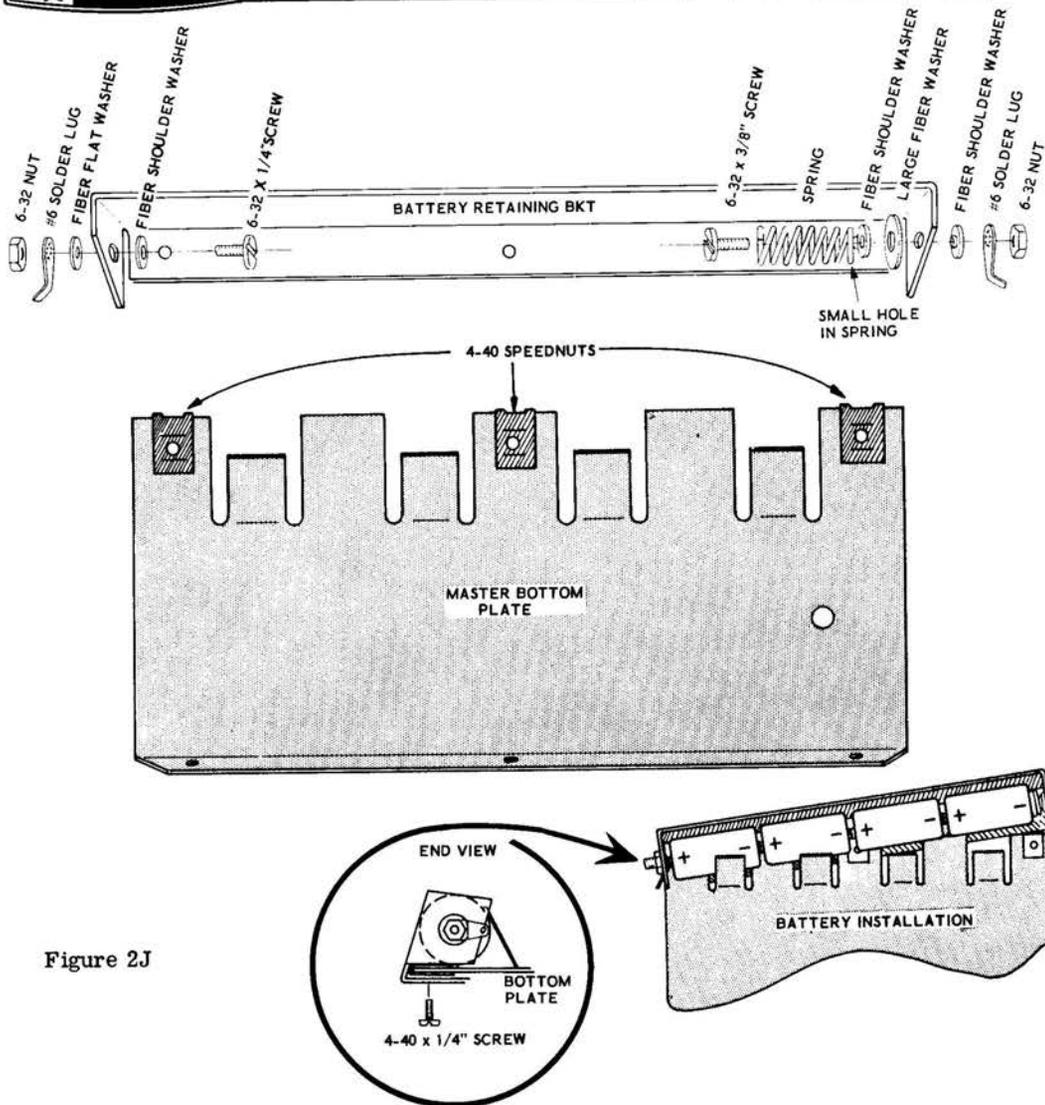

Figure 2J
- () Install another fiber shoulder washer over this screw on the other side of the bracket. Put the shoulder of the washer in the hole in the bracket, and fasten the assembly in place with a #6 solder lug and a 6-32 nut. Place the solder lug as it is shown in Figure 2J.
- () Fasten one end of the battery retaining bracket to the master bottom plate as it is shown in the inset drawing of Figure 2J. Use a 4-40 x 1/4" screw through from the bottom of the retaining bracket into the 4-40 speednut on the bottom plate.